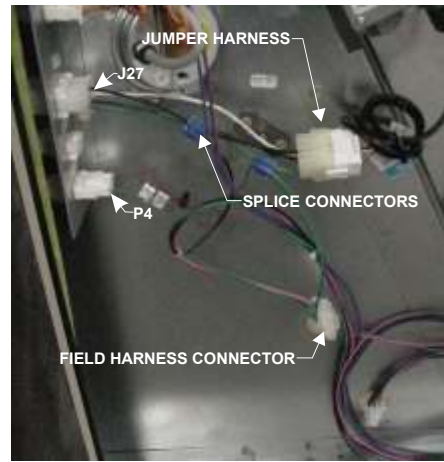

Figure 4
6. Disconnect plug P4 from connector J4. **See Figure 4.**
7. Install the provided ERS field harness between J4 and P4 by plugging P27 into J4, plugging J27 into P4 harness. **See Figure 4.**